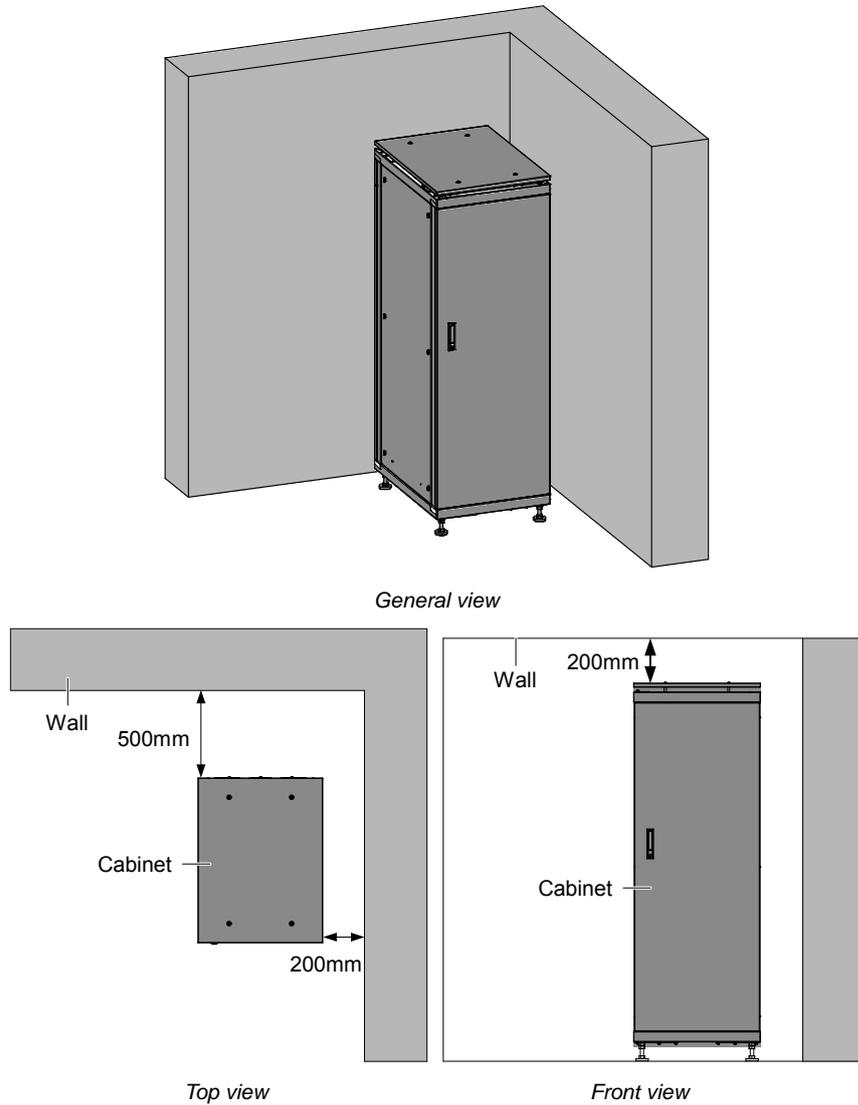

Figure 2-1 Installation clearances
equipment (see Figure 2-1), to avoid obstructing the UPS ventilation and heat dissipation. Otherwise, the UPS internal temperature will rise, which will shorten the UPS life.
2. As shown in Figure 2-1 (top view), the demonstration of the clearance between the rear panel of the cabinet and the wall is 500mm. The clearance should not be less than 200mm, it needs to be considered according to the actual situation for the sake of maintenance convenience.